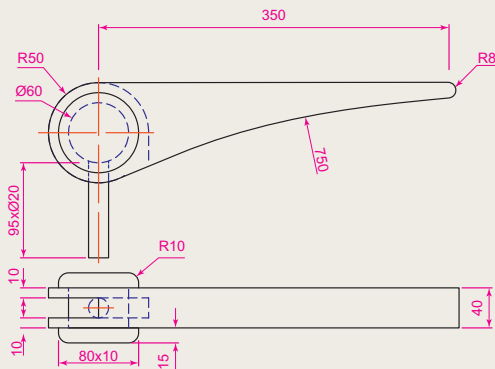
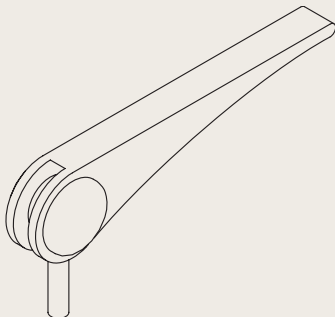

Fig. 13.16 Exercise 4 – orthographic projection
Fig. 13.17 Exercise 4
4. A two-view orthographic projection of a rotatable lever from a machine is given in Fig. 13.16 together with an isometric drawing of the 3D model constructed to the details given in the drawing Fig. 13.17. Construct the 3D model drawing in a **Four: Equal** viewport setting.